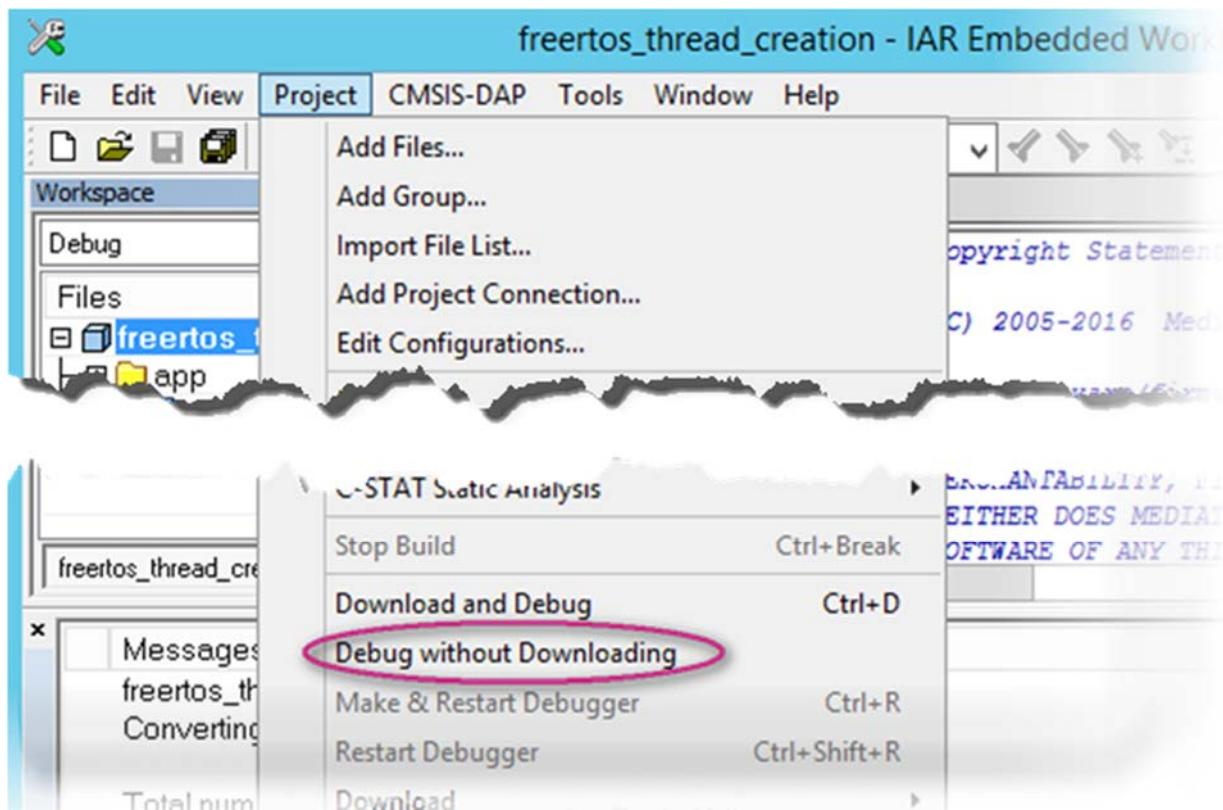

Figure 65. Debugging the project without downloading
- 5) Navigate to **Project**, and click **Debug without Downloading**, as shown in Figure 65.